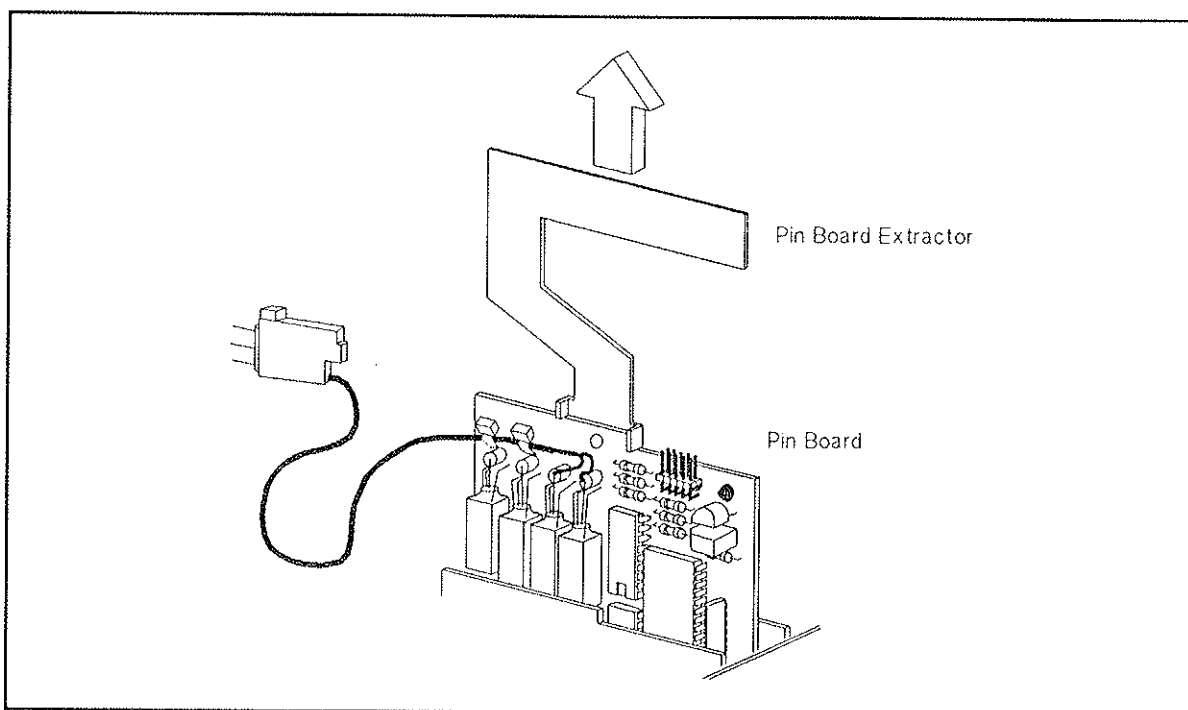

Figure 3-18. Removing Pin Boards
5. Carefully remove pin boards by pulling them out with the pin board extractor as shown in Figure 3-18. Be careful not to let the removed measurement pin assemblies touch any other contact pins.